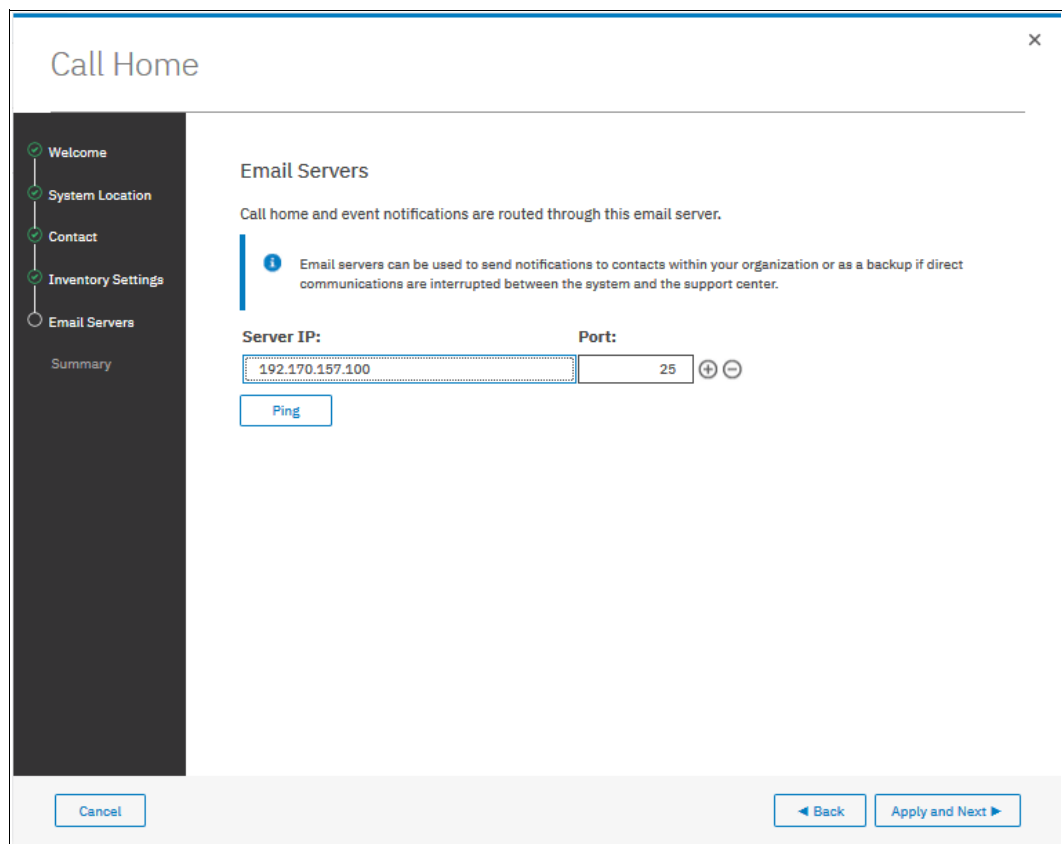

Figure 12-74 Email Servers
5. Configure the email servers. You can add several servers by clicking the plus (+) sign, as shown in Figure 12-74. Test the connection to the email server by clicking **Ping**.